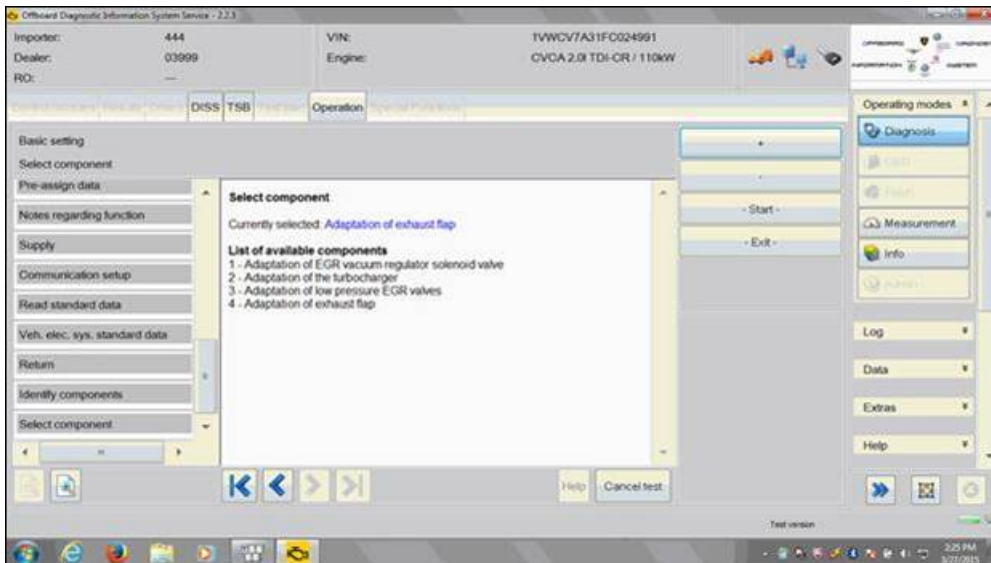

Figure 9
- Using the “+” and “-“ select “Adaption of exhaust flap” and click start (Figure 9). Basic settings will now run for the adaption of the exhaust flap.